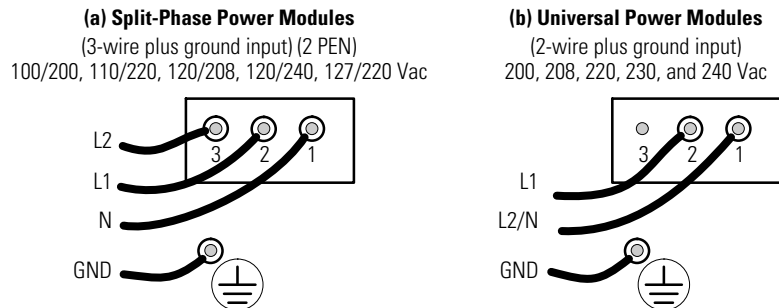

Figure 28. UPS Input Wiring
5. Wire the UPS for the proper input voltage as shown in Figure 28.
Confirm that the UPS is wired for the proper input voltage as shown in Figure 28, and that the proper power modules (either split-phase or universal) are installed to produce the desired output voltage. Do not mix the two types of power modules in the same UPS cabinet.